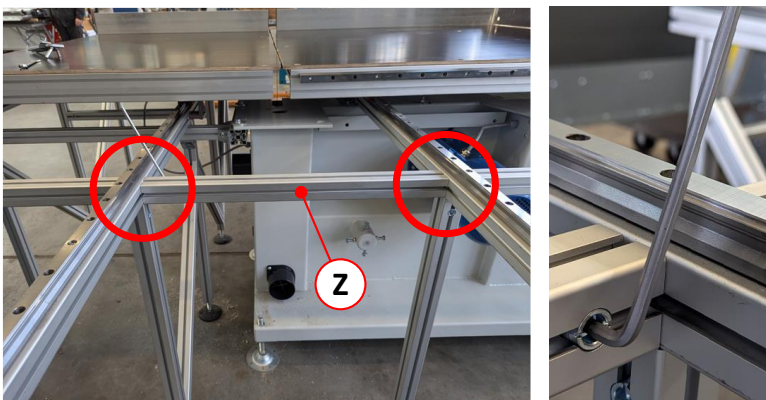
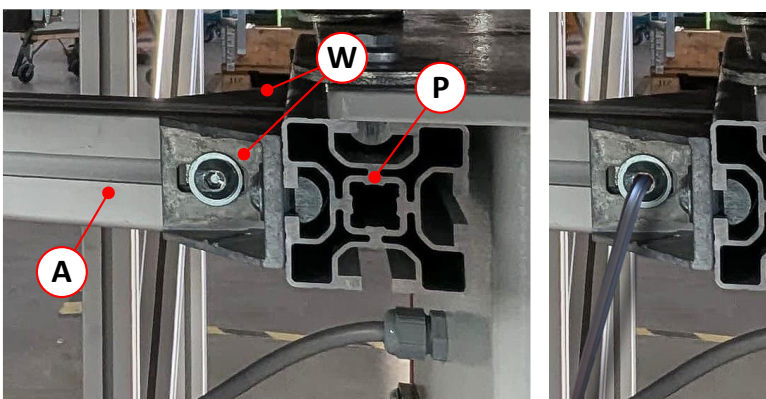

Figure 21: Attach spacer profiles (Z)
Figure 22: Mount connecting profiles (A) on the front and back of the profile (P)
When everything is aligned correctly, tighten all the lock nuts on the levelling feet and the M8 Allen screws on the spacer profiles (Z) and connecting profiles (A), refer to ⇒ Figure 21 ⇒ Figure 22.